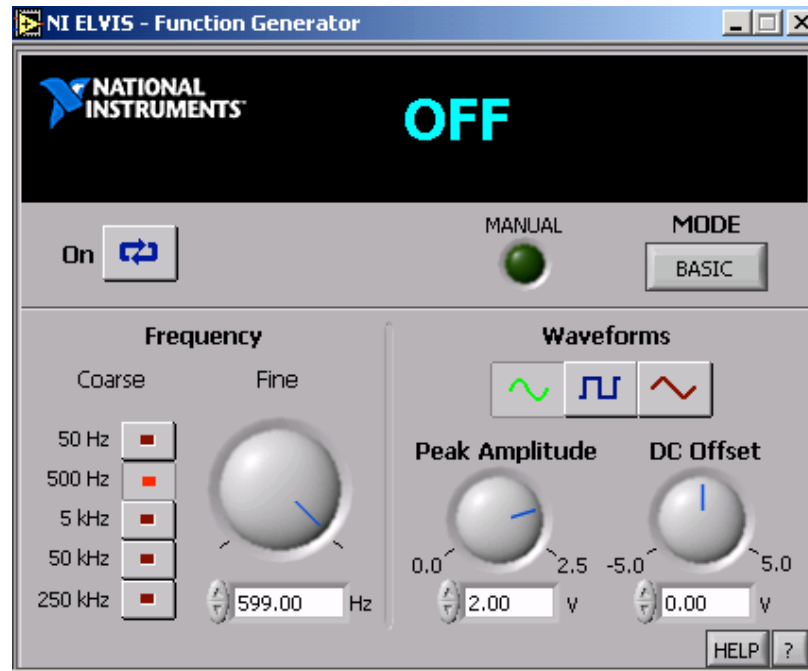

Figure 3. Function Generator
3. Open **Function Generator** and **Oscilloscope**. Set the parameters as shown in figure 3 and figure 4.